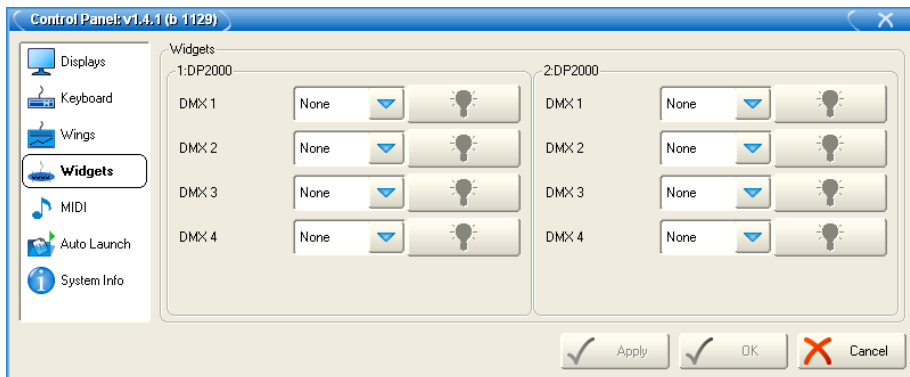

Figure 30.2. The Displays pane of the Control Panel
1. Setup → Control Panel → Widgets : open the Widgets pane of the Control Panel; see *Figure 30.2, "The Displays pane of the Control Panel"*.